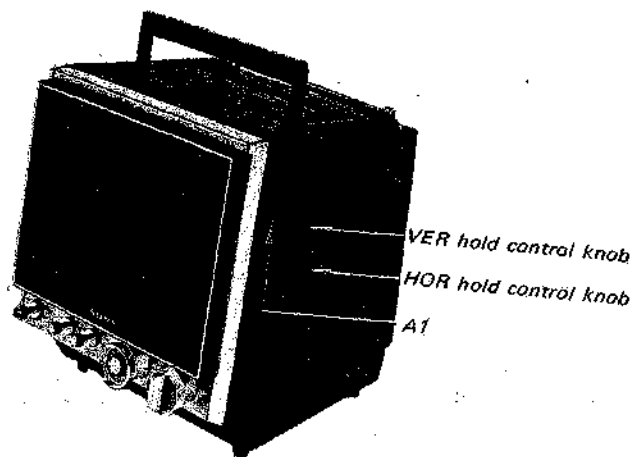

Fig. 2-1.
1. Pull off the VER and HOR hold control knobs as shown in Fig. 2-1.
2. Remove the two black screws labeled A1, A2 in Figs. 2-1 and 2-2.